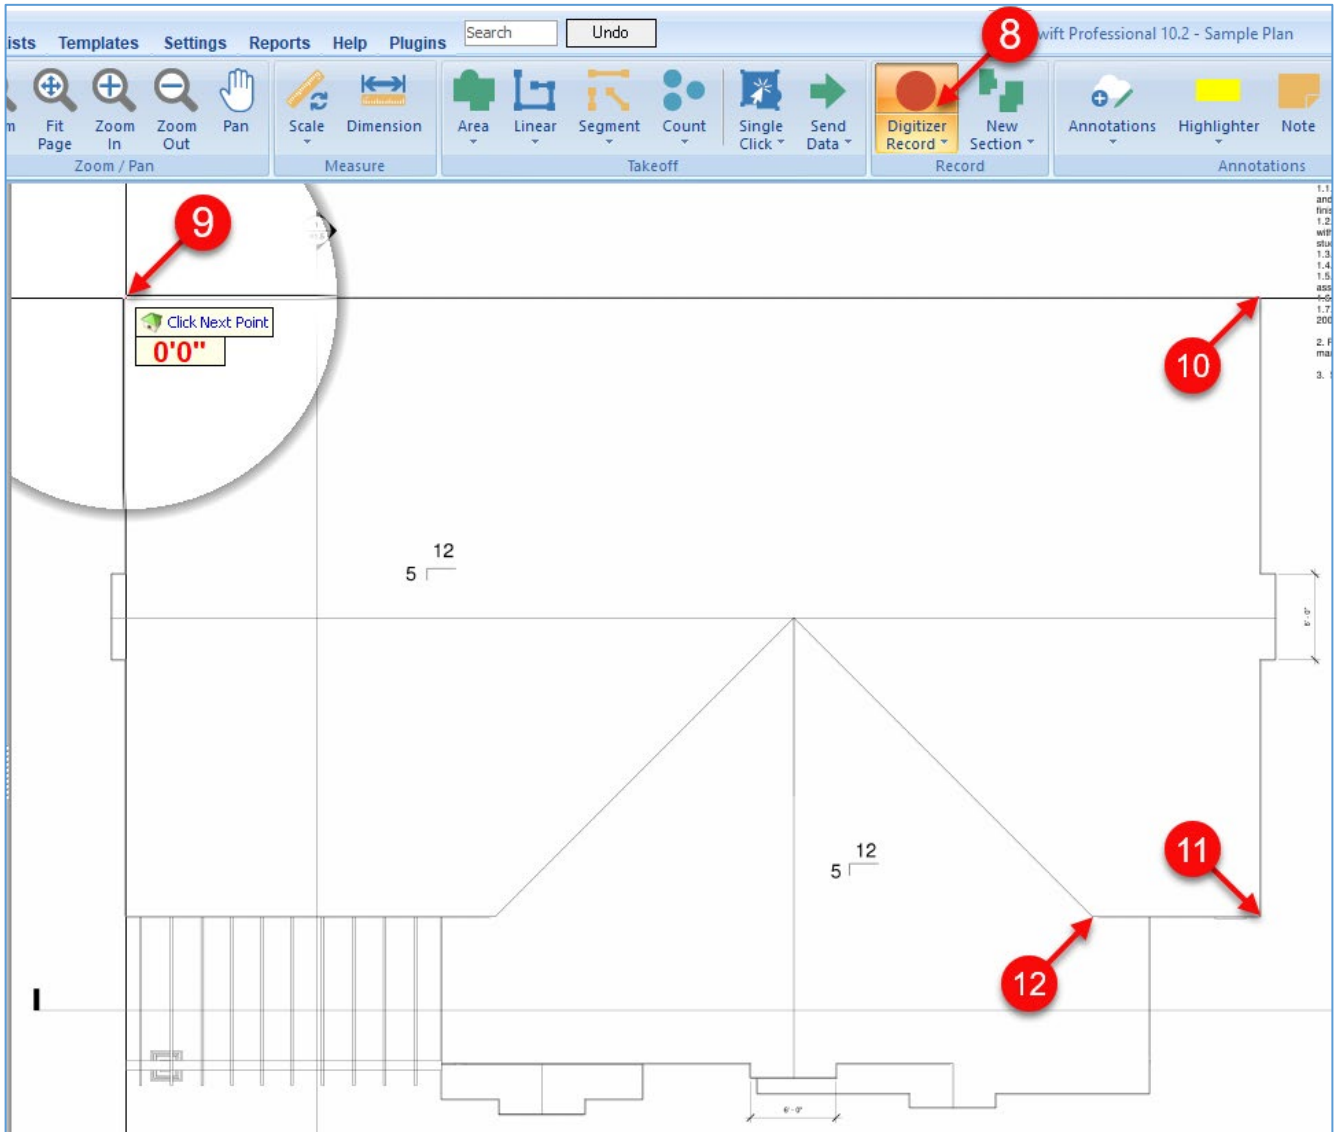

Figure 32-B
13. As you click on each of the corners, the fill you chose is displayed up to the **Point** of your latest click. Click on the fifth **Point** (Fig. 32-C).